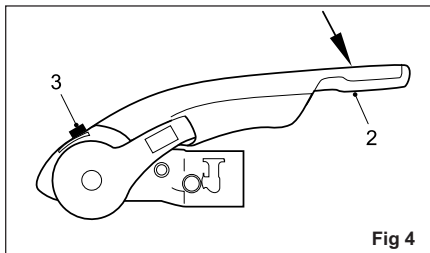

Fig 4
WARNING: The coupling is correctly engaged when the green edge of the safety indicator button is visible (Fig. 4/ Item 3).
- To operate the Stabiliser (once coupled to the towball), simply press the stabiliser lever down as far as it will go (Fig. 4/Item 2).